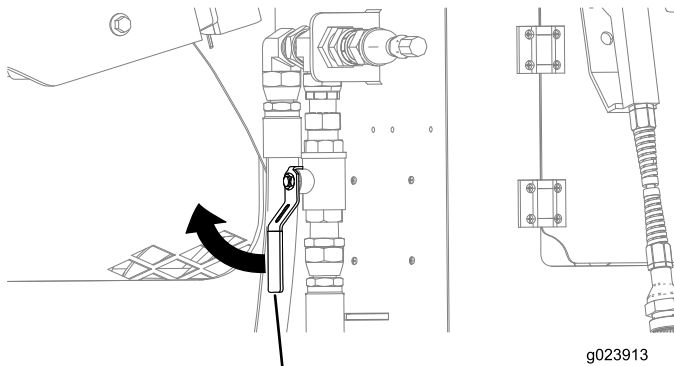

Figure 165
4. Ensure that the valve near the rear compartment is in the closed position (Figure 165).